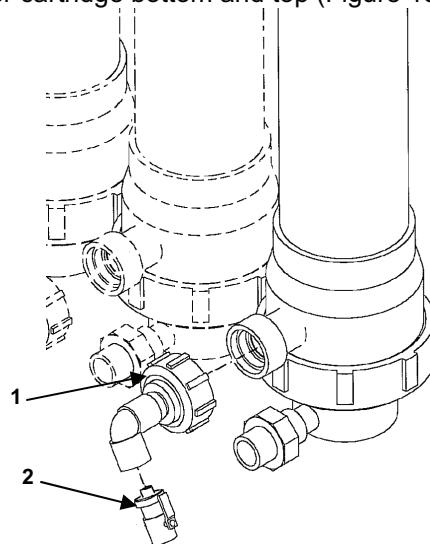

Figure 13. UF Cartridge Drain Piping.
1. Loosen the unions one (1) per cartridge bottom and top (Figure 13, Item 1) and remove the drain piping.
2. Remove drain valve (Figure 13, Item 2) only if necessary.
1. Refer to Figure 13 for this piping.
3. Tighten the unions (Figure 13, Item 1).
4. Install the drain valve (Figure 13, Item 2) if necessary.